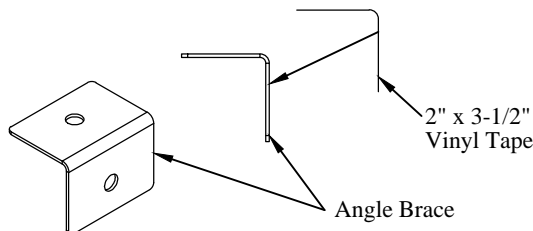

Figure 8: Vinyl tape locations.
3. **Apply** the vinyl tape to the angle braces as shown (Figure 8)